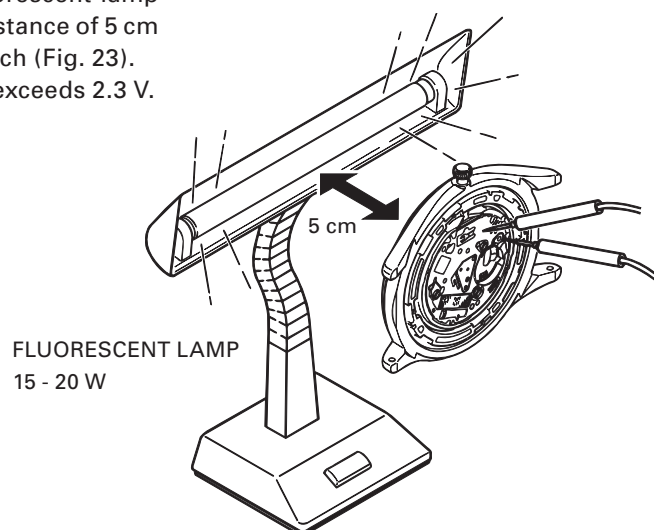

Fig. 23
- 4) Expose the watch to the light of a fluorescent lamp (use the one with 15 to 20 watts) at a distance of 5 cm while connecting the probes to the watch (Fig. 23).